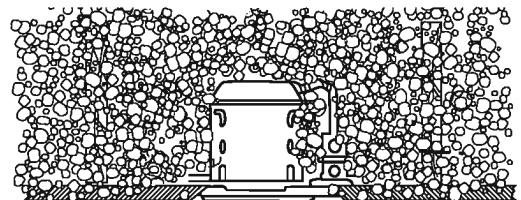

Fig. 1
- Insulation may come in contact with the housing (Fig. 1).